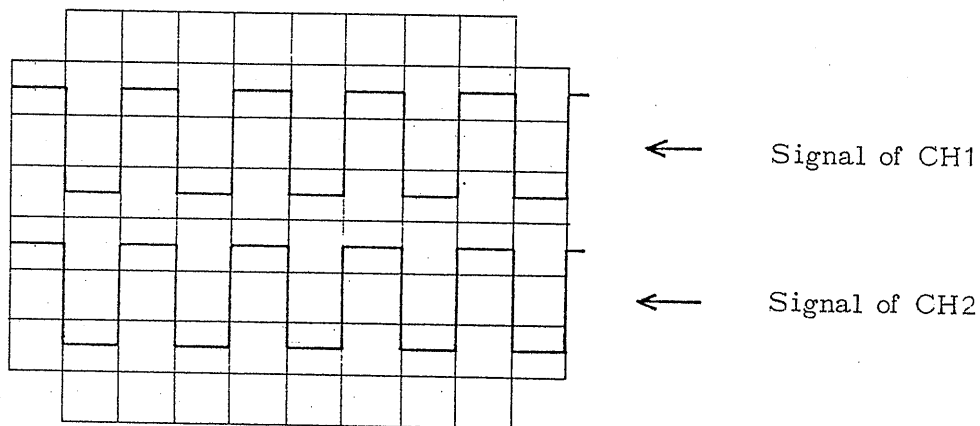

Fig. 6
Now, apply the calibration voltage to CH2 input terminal (21) also through the probe supplied as accessory, and set the GND button (23) in the \blacksquare position. Two waveforms are displayed by adjusting POSITION controls (8) and (13) as shown in Fig. 6.